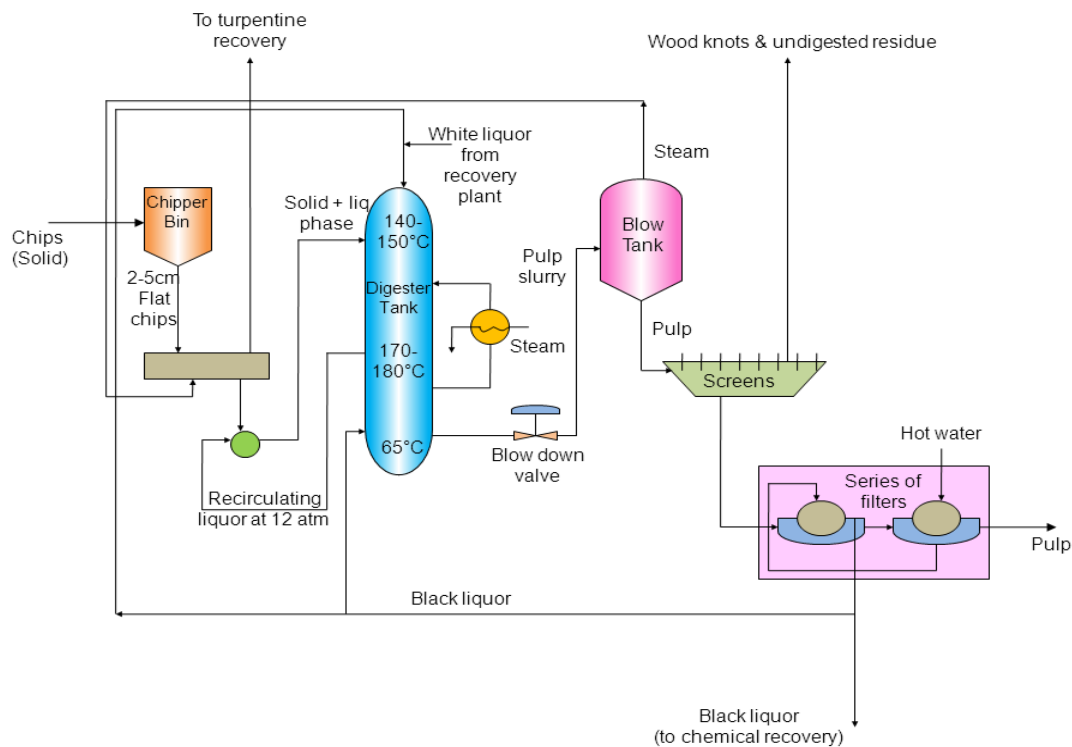

Figure 26.1 Flow sheet of manufacture of pulp manufacture
26.2 Sulfate (Kraft) Pulping Process (Figure 26.1)